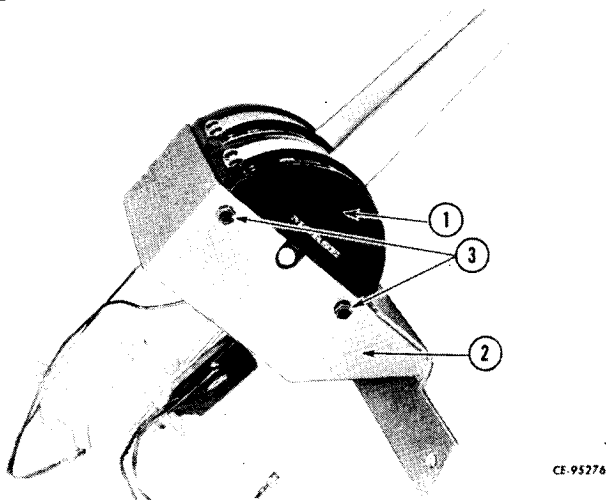

Figure 9-13
Position lever bracket assembly (1, Fig. 9-13) inside mounting bracket (2) and install and tighten lock washers and cap screws (2).